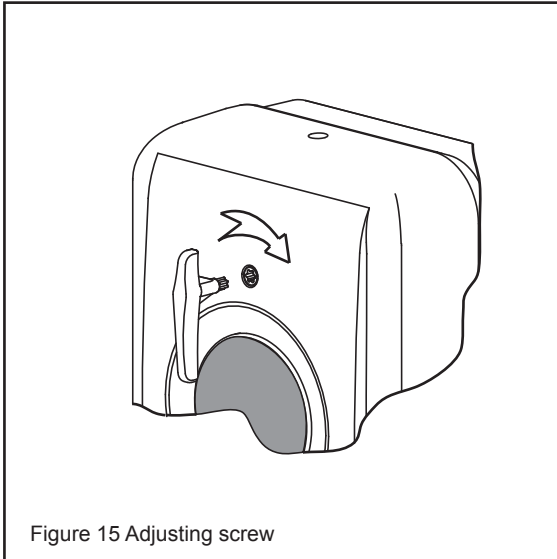

Figure 15 Adjusting screw
- 8.1 Before turning on the electricity and mains water to the hand wash, ensure the torx adjusting screw is turned fully anticlockwise - see figure 15.